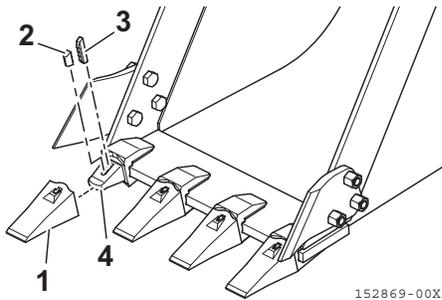
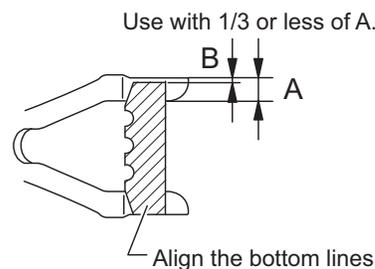

Fig. 8-23
Fig. 8-26
Replace the teeth before the point (Fig. 8-23, 1) is worn to the adapter (Fig. 8-23, 4).
2. Strike out the locking pin (Fig. 8-23, 3) installed on the bucket with a hammer and punch to remove the point (Fig. 8-23, 1).
Do not strike the punch toward the rubber pin lock (Fig. 8-23, 2). Otherwise the rubber pin lock (Fig. 8-23, 2) may be damaged. Strike the tool toward the back of the pin.
3. Remove the rubber pin lock (Fig. 8-23, 2).
4. Check the removed rubber pin lock (Fig. 8-23, 2) and locking pin (Fig. 8-23, 3).
Using the rubber pin lock (Fig. 8-23, 2) and locking pin (Fig. 8-23, 3) in the conditions below may cause the point (Fig. 8-23, 1) to come off during operation. Replace the applicable part with a new one.
- There is a crack in the rubber of the rubber pin lock (Fig. 8-23, 2) and the roller may come off.
- With the lower side of the locking pin (Fig. 8-23, 3) aligned with the point bottom line, the dimension (Fig. 8-26, B) is equal to or more than 1/3 of the dimension (Fig. 8-26, A).
5. Clean the surface of adapter (**Fig. 8-23, 4**) with a tool such as a putty knife to remove the hard mud fixed on it.
6. Push the rubber pin lock (**Fig. 8-23, 2**) into the hole on the adapter (**Fig. 8-23, 4**) by hand or by a hammer.
<p>Do not let the rubber pin lock (Fig. 8-23, 2) come out of the adapter (Fig. 8-23, 4) surface.</p>
7. Install the point (**Fig. 8-23, 1**) to the adapter (**Fig. 8-23, 4**) and check that the rear surface of the pin hole on the point (**Fig. 8-23, 1**) is almost aligned with the rear surface of the pin hole on the adapter (**Fig. 8-23, 4**) when the point (**Fig. 8-23, 1**) is pushed strongly onto the adapter (**Fig. 8-23, 4**).
8. Insert the locking pin (**Fig. 8-23, 3**) into the pin hole on the point (**Fig. 8-23, 1**) and strike it so that the upper end of the locking pin (**Fig. 8-23, 3**) will be flush with the surface of the point.
- Replace the rubber pin lock (**Fig. 8-23, 2**) and locking pin (**Fig. 8-23, 3**) with new ones at the same time when replacing the point (**Fig. 8-23, 1**). This prevents the point (**Fig. 8-23, 1**) from coming off.